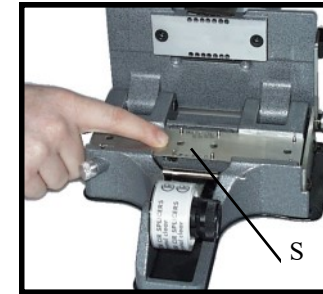
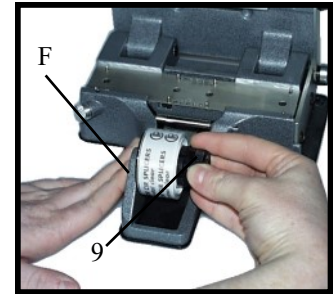

Fig.1
Fig.2
- That the adhesive tape (S fig 1) , three/ four superimposed layers, are applied to the matrix. This ensures that the little rectangles cut off by the perforators remain under the matrix and do not turn up sticking to the film. **NEVER TAKE IT OFF, BUT RENEW IT FROM TIME TO TIME !**
- That the adhesive tape is well centered in respect to the central pins (S fig 1) and pushed tight to flange (F fig 2). Tapes of different widths may be centered by removing or adding flanges, available in various thickness.
- That the adhesive tape unroll tension is well regulated, turning knob (9 fig 2).